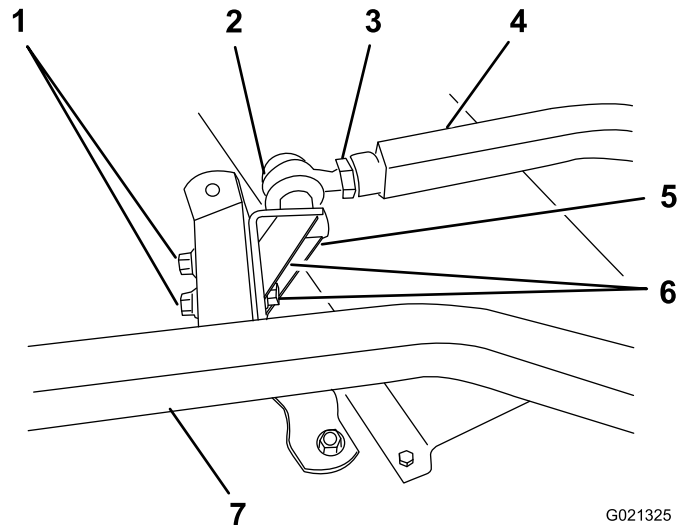

Figure 23
6. Have another person push down on the left push arm while you remove the capscrews, flat washers, and locknuts securing the ball joint mount to the castor arm on the cutting unit (Figure 23). Now the helper can carefully allow the push arm to move upward, which will gradually release the 68 kg (150 pounds) of spring load
5. Have another person carefully push down on the left push arm until the holes in the ball joint mount line up with the holes in the castor arm (Figure 23). Immediately slide a 4 x 4 inch block of wood between the top of the push arm and the underside of the chassis.